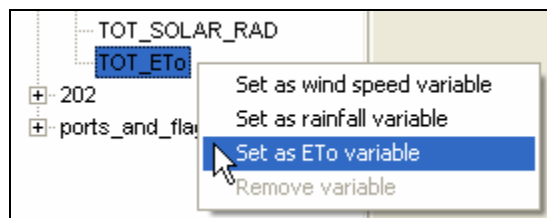

Figure 10.0.11
- Scroll down to **Set as ETo variable** in the **selections** window and click on it (Figure 10.0.11)